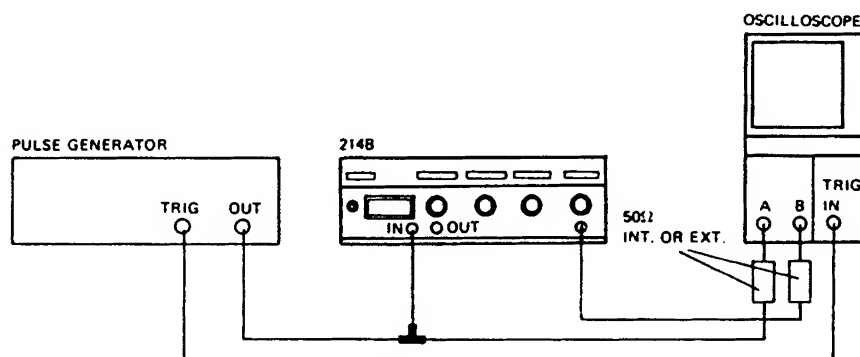

Figure 4-12
1. Connect equipment as shown in Figure 4-12 and set 214B controls as follows: